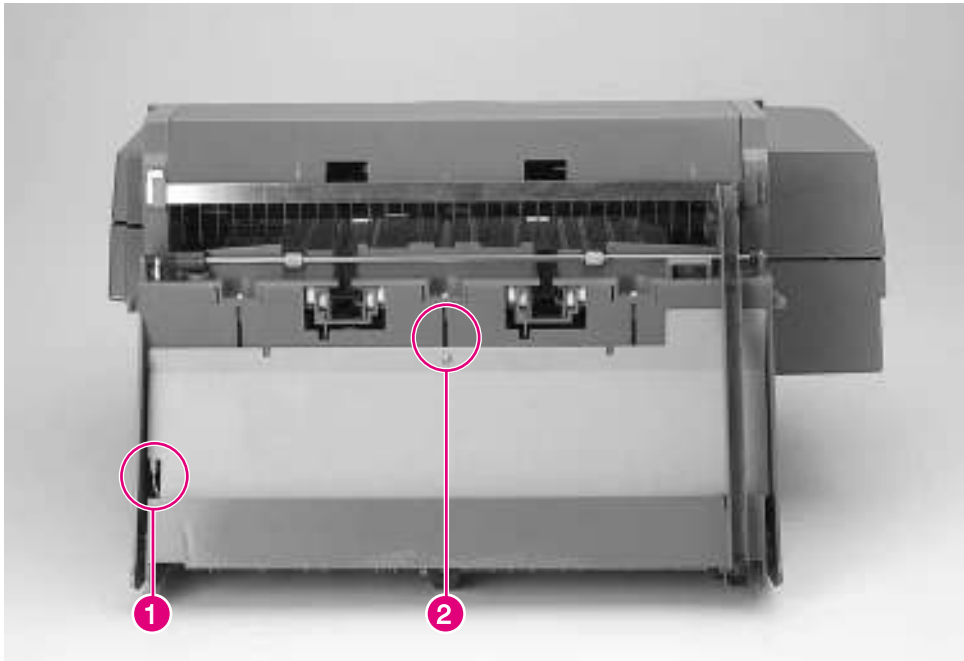

Figure 6-183 Back Plate (2 of 2)
- 3 Remove the Torx screw joining the Back Plate with the Stapler (see figure 6-183, callout 2).
- 4 Release the ground cable that is connected to the Back Plate (see figure 6-183, callout 1).